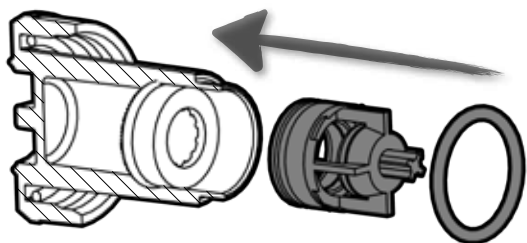

Fig. 35
- 3) Insert the CHECK VALVE 19, ensuring correct orientation and that it projects from the end of the FILTER HOUSING 21, (Fig. 35) then place the O-RING on the end of the FILTER HOUSING 21 (Fig. 36)